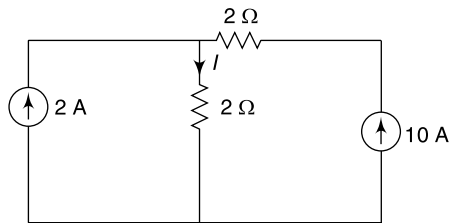

Fig. 15.1
16. Determine the current I in the circuit (Fig. 15.1)